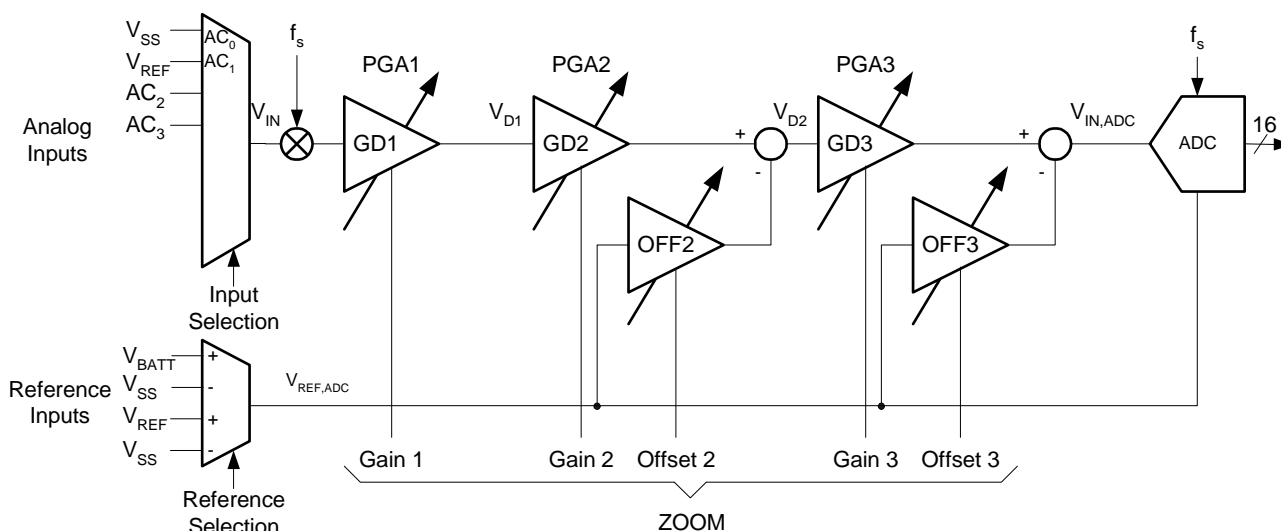

Figure 8 - ZADC General Functional Block Diagram
Figure 8 shows the general block diagram of the acquisition chain (AC). A control block (not shown in Figure 8) manages all communications with the 2-WIRE peripheral. The clocking is derived from the internal 4 MHz Oscillator.
As seen in Figure 8, the zooming function is implemented with three programmable gain amplifiers (PGA). These are: